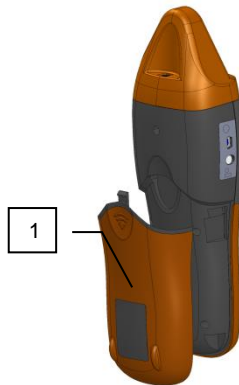

Fig. 15 Replacing the power supply.
- remove the battery cover 1 - Fig. 15,